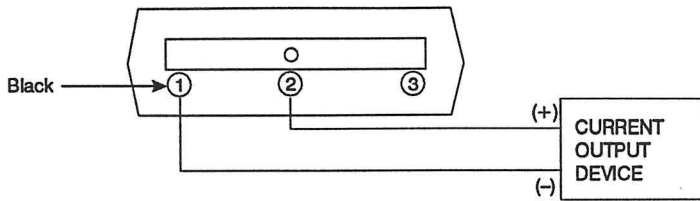

Figure 2 - Top View
6. If current is to be measured or supplied by the internal 24 volt supply, refer to figures 2 and 3.